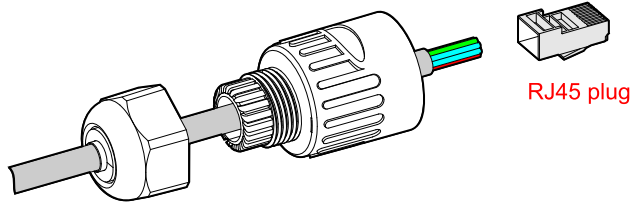

Figure3-30 Crimp the wires of RJ45 plug
Step 1 Strip the insulation layer of communication wire by wire stripper, loosen the lock nut of waterproof RJ45 connector and then draw the communication wire through the RJ45 connector and crimp it to the RJ45 plug, as shown in Figure3-30.